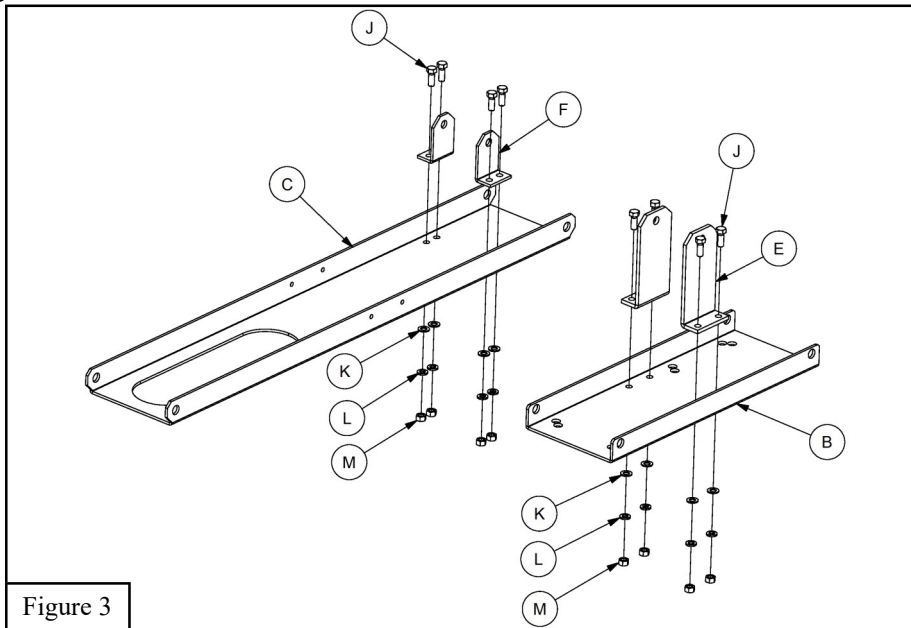

Figure 3
3. Using $3/8'' \times 1''$ Hex Bolts (J), $3/8''$ Flat Washers (K), $3/8''$ Lock Washers (L) and $3/8''$ Hex Nuts (M) attach the two Pole Plate Brackets (E) to the Pole Plate (B) and the two Extension Channel Brackets (F), to one Extension Channel (C). Note the location of the cutout in the Extension Channel (C). See Figure 3. Do not tighten at this time.